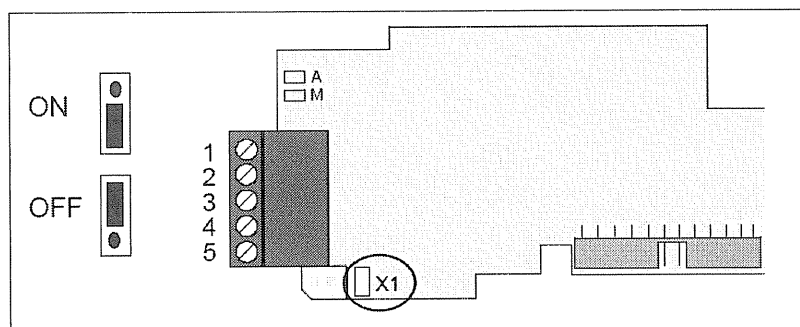

Figure 4-11. Jumper X1 Positions
- 1 Set jumper X1 in OFF position. See Figure 4-11.